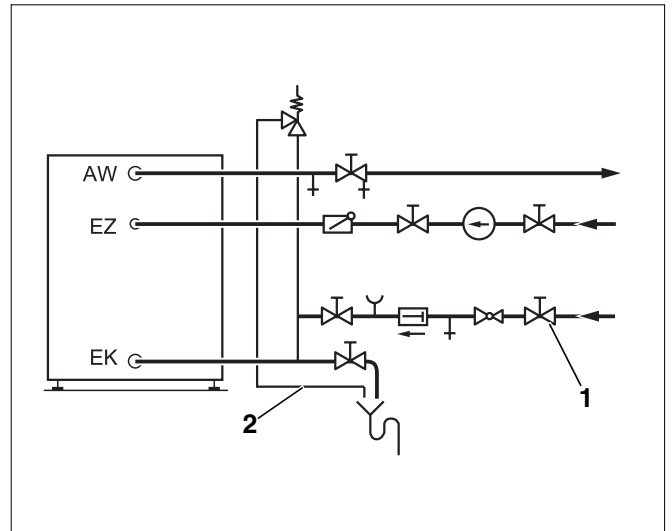

Fig. 14 Installation diagram (general layout)
- Open the shut-off valve for the cold water inlet EK (Fig. 14, **Item 1**) to fill the DHW tank.
- The P & T valve blow-off line (Fig. 14, **Item 2**) must always be kept open and piped full port to a nearby floor drain.
- Always keep the blow-off line of the P & T valve (Fig. 14, **Item 2**) open and unobstructed and piped to nearby floor drain .